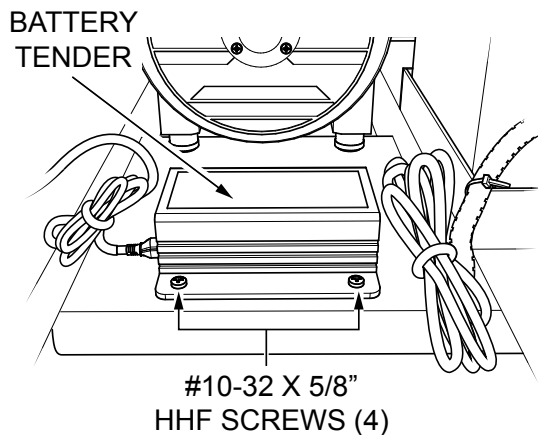

Figure 7. Securing Battery Tender Charger
- Using a 11/64" drill bit (Figure 7), drill out four holes per the marked mounting locations.
- Using a 13mm socket, secure the battery tender to the generator support plate (Figure 7) using four HHF #10-32 x 5/8" screws.